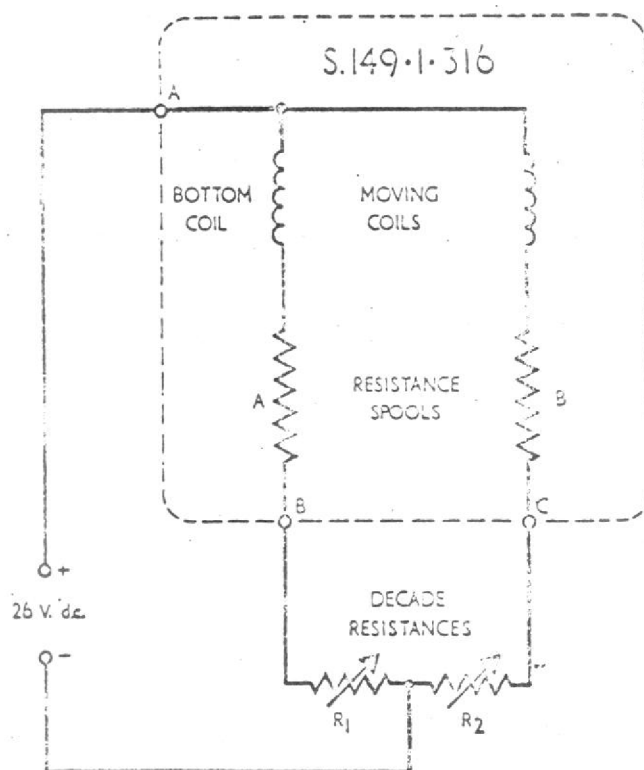

Fig.2 Calibration check circuit diagram
- (1) Connect the indicator in the circuit shown in Fig.2.
- (2) Check calibration by setting R1 and R2 to the values given in the accompanying table and checking the pressure values against the readings on the indicator.